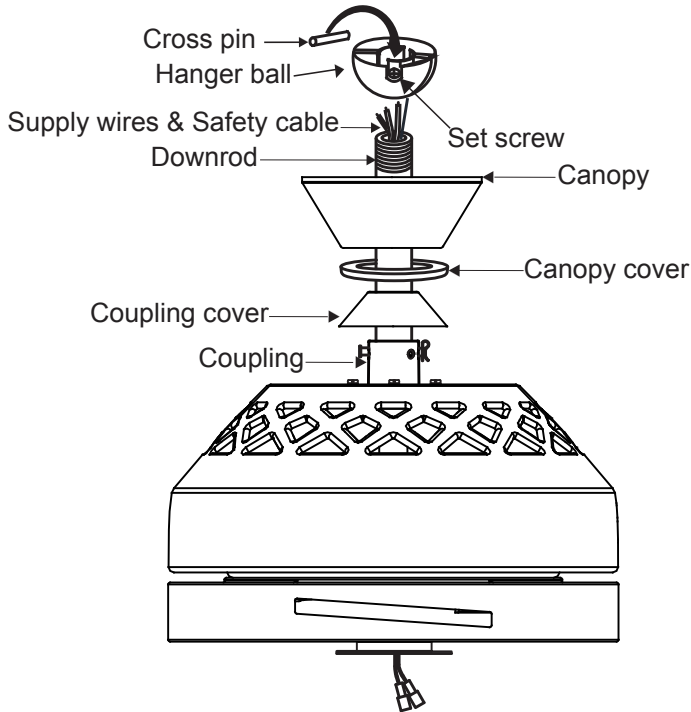

Fig. 9
**Step 8.** Slip the coupling cover, canopy cover and canopy onto the downrod. (Fig. 9)
Thread the hanger ball onto the downrod, insert the cross pin through the downrod and tighten. Now tighten the set screw. (Fig. 9)